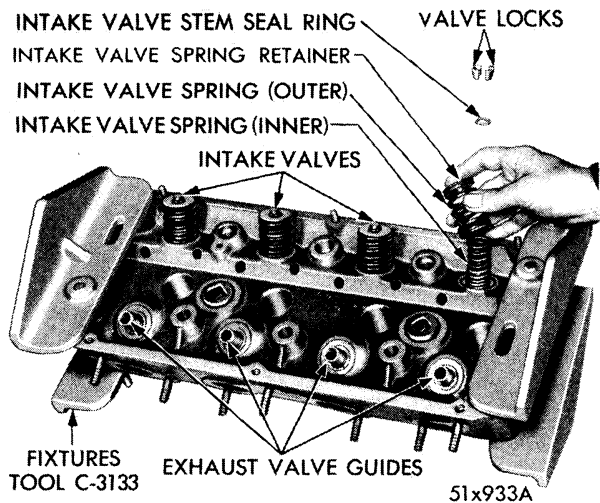

Fig. 151—Installing Inner and Outer Intake Valve Springs and Retainers
- (1) Coat the intake valve stems with lubricating oil, and insert in position in the head. Install the inner and outer valve springs and retainers, as shown in Figure 151.
- (2) Compress the valve springs with Tool C-3023. Install the valve stem seal rings. Seat seal rings in bore of spring retainers, using Tool C-3057.
- (3) Coat the exhaust valve stems with lubricating oil and insert in head. Install the inner